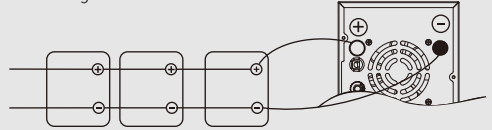

Fig. 3
3) Multiple Batteries in Parallel Connection (Refer to Fig. 3):